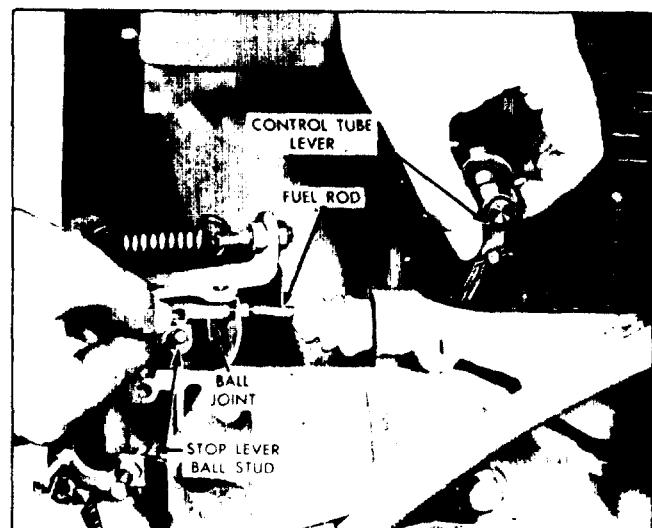

Fig. 4 Adjusting Fuel Rod Length
7. Loosen the nut which locks the ball joint on the fuel rod. Hold the fuel rod in the full-fuel position and adjust the ball joint until it is aligned and will slide on the ball stud on the stop lever (Fig. 4). Position the shutdown cable clip and tighten the fuel rod lock nut to retain the adjustment.